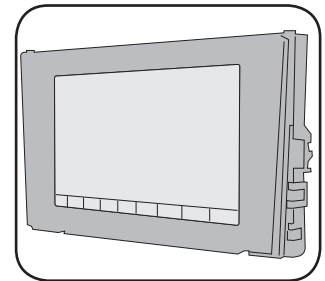
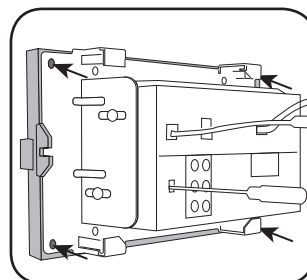

Fig. 1.15
Fig. 1.16
2. Place VW1 bezel onto the mounting bracket (Fig. 1.15), securing it with the four (4) Phillips screws included with the VW1 kit. (Fig. 1.16)